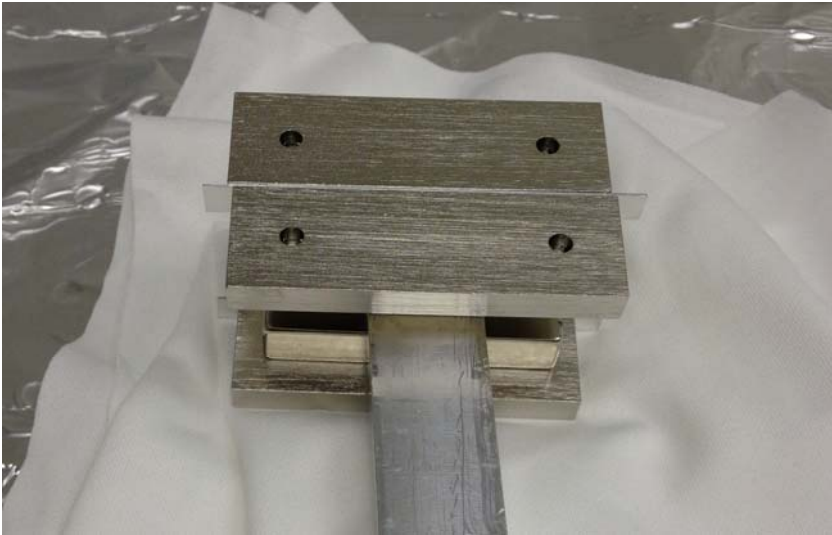

Figure 5. 0.250" thick aluminum bar. PEEK would be better.
4. Place a 0.250" thick aluminum or PEEK bar on top of the magnets of one pair and then place the other pair on top of the bar. Orient the magnet pairs per the D1003318 drawing. See Figure 5.